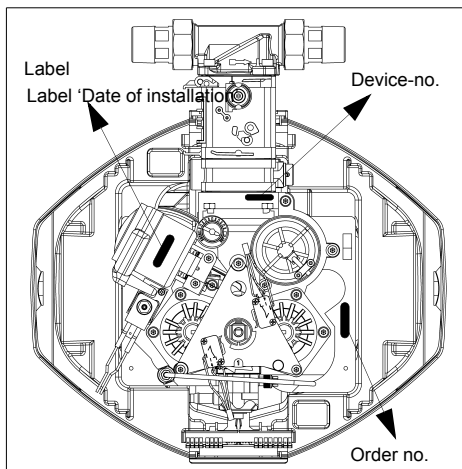

Fig. 11: Device and order no. plus Label 'Date of installation'
- Enter the date of installation on the label (see fig. 11).